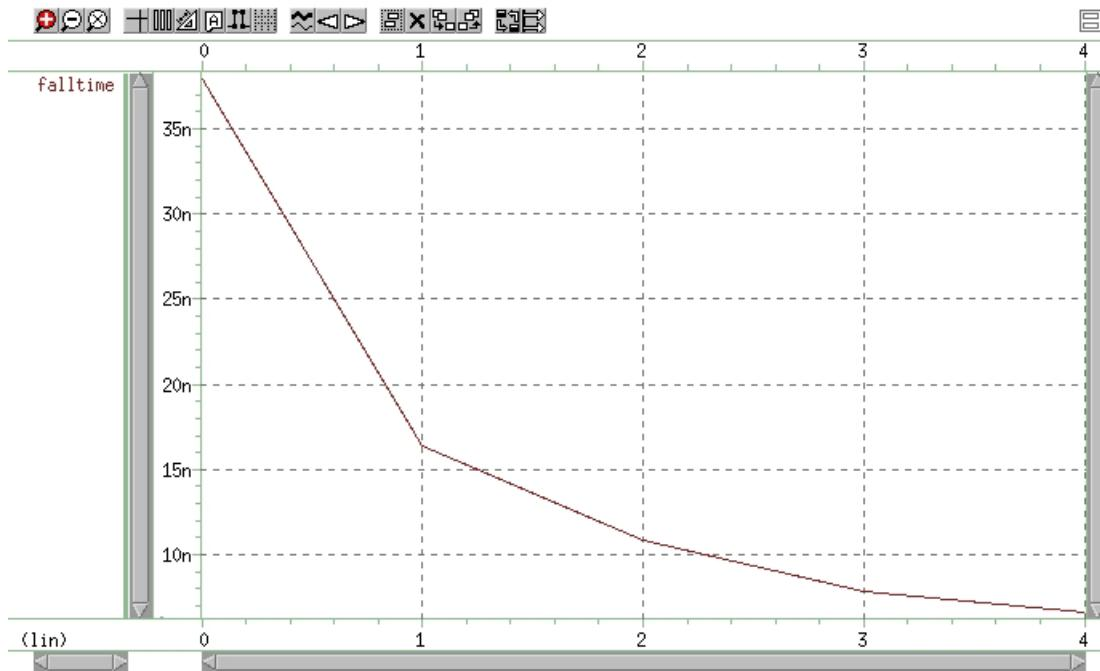

Figure 288 Plot of Measured Variable *falltime* vs. Amplifier Input Voltage
17. Left-click on the signal *falltime*. Drag and drop the selected signal into the WaveView panel. You should see a plot similar to the one shown in Figure 288 on page 1192.